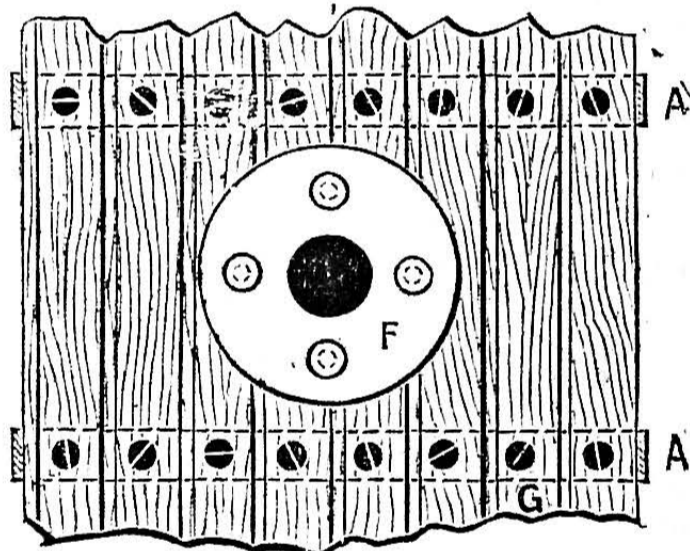
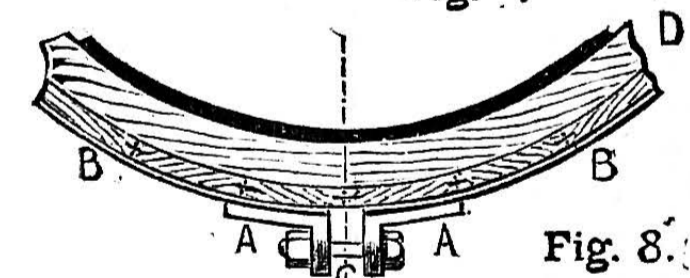
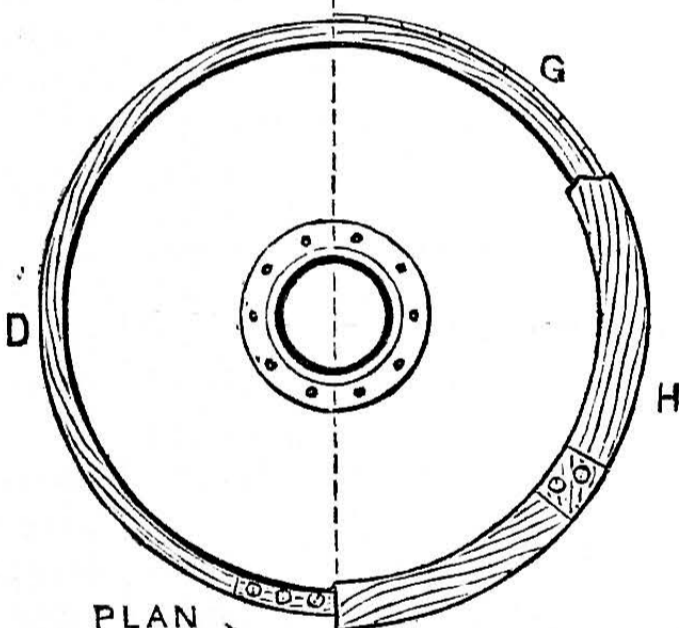
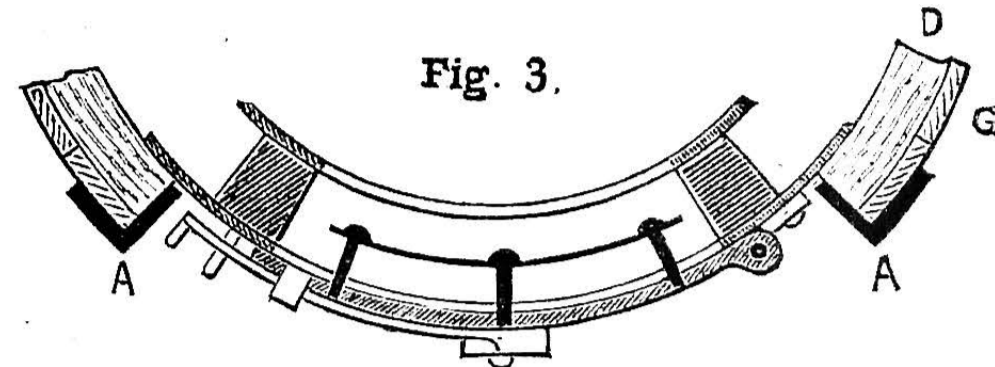

Fig. 7.
Fig. 8.
Fig. 6.
Fig. 3.
of B, welded up. The large rings, as will be seen from the section at Fig. 3, stand radially in relation to the boiler, and their depth is such that the under face of the flat flange rests upon and covers the face of the lagging. The rings need not necessarily be deep enough to touch the boiler-shell; it is better if they are left to clear it by, say,  $\frac{1}{8}$  in. or  $\frac{1}{4}$  in. The small rings for the mud-
Vertical Boilers. Fig. 1.—Sectional Elevation of Vertical Boiler, cleaded or lagged. Fig. 2.—Half Elevations of Vertical Boiler, with Outside Lagging, and Lagging Strips removed. Fig. 3.—Horizontal Section through Fire-hole Door and Angle-Iron Ring. Fig. 4.—Section through Mud-holes. Fig. 5.—Method of bending the Rings of Ash. Fig. 6.—Saw-Kerf Method. Fig. 7.—Fastening of Lagging around Seatings. Fig. 8.—Fastening of Bonds.
The whole process is rather roundabout, and not so well as the second method of saw-kerfing. In this, the strips, after being sawn and planed, are saw-kerfed (as shown in Fig. 6) at intervals of about every  $1\frac{1}{2}$  in. or 2 in. Then, without having to resort to steaming, the strips can be easily bent to the curvature required, of course around the templet ring, and the overlapping ends will be screwed together. Before any lagging is screwed on these wooden rings, the angle iron enclosing rings and the felt have to be put around the boiler.
lengths to fit against the cast-iron seatings, and no means of screwing it existing as in the frames of angle section that fit around the large openings, it requires to be supported and held fast independently of the seating. This is done by laying short swept pieces around the boiler, above and below the seatings (Fig. 7, A), and screwing the cleading upon these. The sweeps, being extended to right and left, underneath the continuous strips, cannot yield, and so it affords support to the severed lengths.
*Bonding the Lagging.*—However well strips may be fitted and laid round, the weather and the heat of the boiler will soon warp them out of truth, and they will bulge and become uneven between the rings. Hence one reason why bonds of metal are commonly employed to confine them in place. They are not essential with wood cleading, as they are with iron, and are not always put on. Still, they are used with advantage, and if made of brass, improve the appearance of the cleading. They are not shown in Fig. 2, but the ends of a bond are shown in Fig. 8. Bits of angle iron or light forgings, A, are riveted to the ends of the bonds, B, and a bolt, C, pulls these up nearly together, so tightening the bonds round the wood.